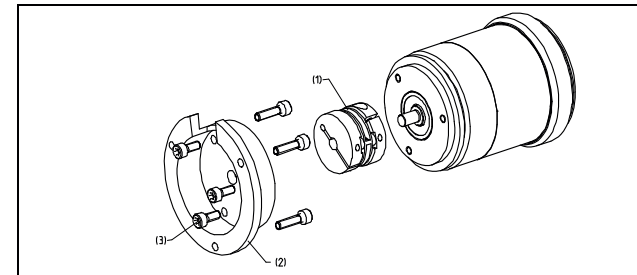

Figure 10-1: Servo flange (Installation via threaded holes)
- Via the 3 threaded holes on the flange side (Figure 10-1)